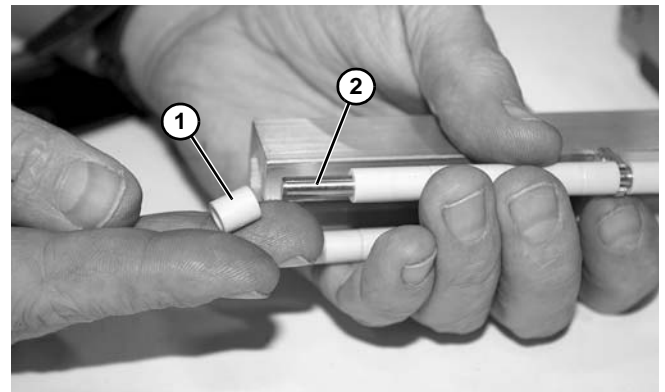

Figure 97
7. Remove and replace bearings (**Figure 97, item 1**) and rods (**Figure 97, item 2**) as necessary.